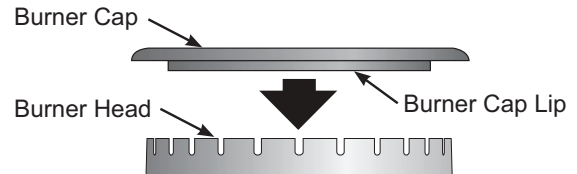

Figure 38: Burner Cap
1. Remove the burner cap from the burner head (see Figure 38). Clean the cap with hot soapy water and dry thoroughly.